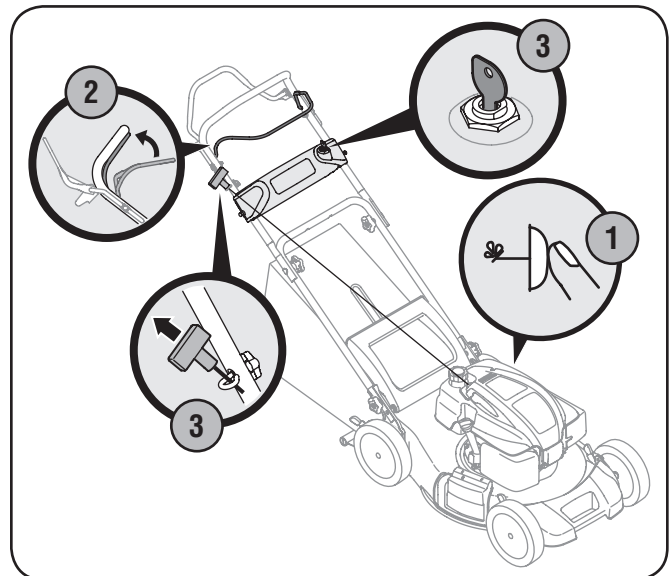

Figure 5-4
1. Push primer 3 times. Wait about two seconds between each push. See Fig. 5-4. In temperature below 50°F, prime 5 times. After the engine is warmed up, one prime may be needed for all temperatures.
3. **Recoil Start:** Pull the recoil starter lightly until resistance is felt, then pull rapidly to overcome compression, prevent kickback, and start the engine. Repeat if necessary. See Fig. 5-4.